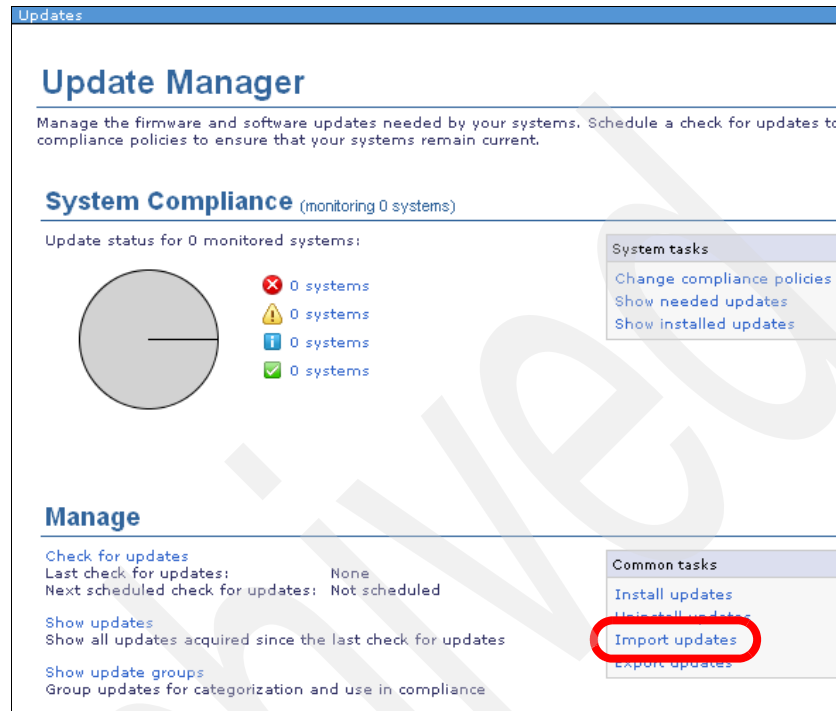

Figure 3-13 Importing the updates through the Update Manager window
7. In the Update Manager window, click **Import Updates** under Command tasks, as shown in Figure 3-13.